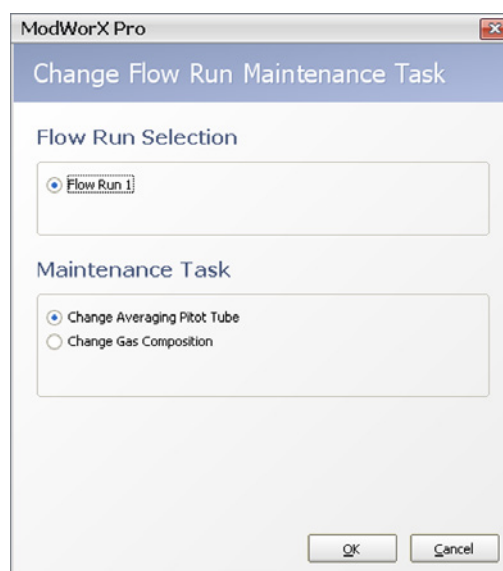

Figure 11.7
1. If Change Gas is not displayed in the Maintenance Task field at the top of the Maintain Flow Run screen, click on **Change Task**. The Change Flow Run Maintenance Task dialog will appear (Figure 11.7).